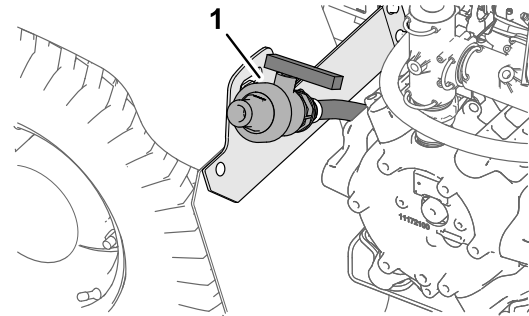

Figure 44
2. Locate the tank-drain valve at the left, rear fender of the machine (Figure 44).